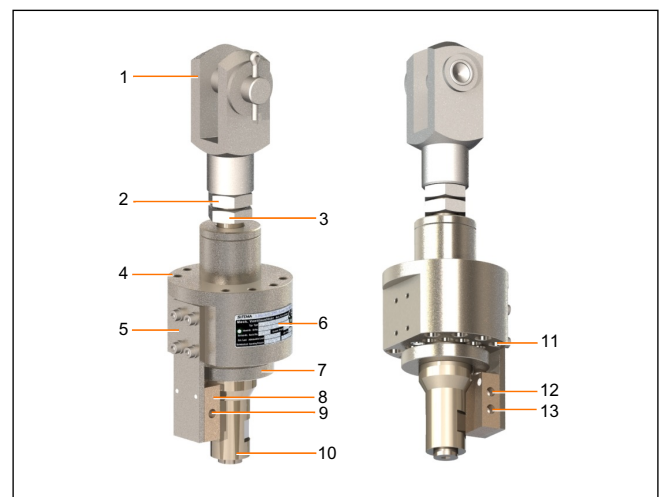

Fig. 1: Overview MVA (example design)
The traction of the tensioned suspension element on the switch rod (10), *Fig. 1* keeps the stop ring (7), from contacting the slide of the pneumatic valve (8). The pneumatic valve is not actuated in this state. When the lifting force of the suspension element falls below a critical value (e.g. in the event of rupture of the suspension element, etc.), the switch rod (10) moves down and presses the stop ring onto the slide of the pneumatic valve. The pneumatic valve is actuated, and the pneumatic component is activated.
Pneumatic ports 1, 2 and 3 see (9), (12), (13), *Fig. 1* can be assigned as required. Depending on the application, this allows the initial position (not actuated/actuated) to be defined as closed or open.